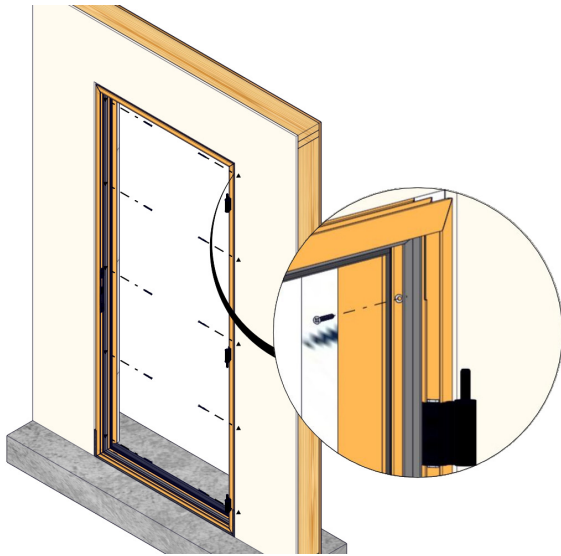

Fig. 6
1. Drill a countersink hole through the jambs in the exterior track per anchorage calculations. **Quaker Window Products does not supply or claim liability for anchorage/fastener calculations. It is the installer/client's responsibility for structural adequacy of the anchorage and fasteners.** Typically, 3" from the corners and 16" on center, and at every hinge and lock location. (Fig. 6)